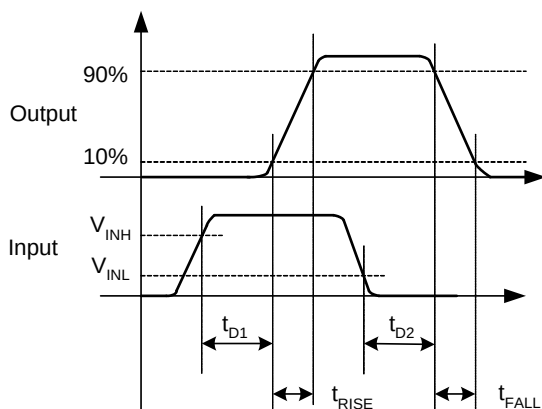
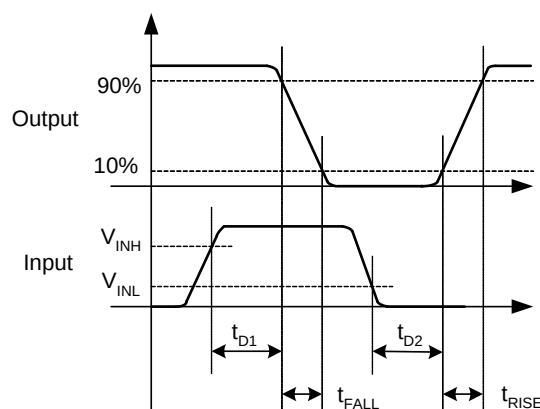

Figure 6. Non-Inverting Timing Diagram
Figure 7. Inverting Timing Diagram
11. See Timing Diagrams of Figure 6 and Figure 7.